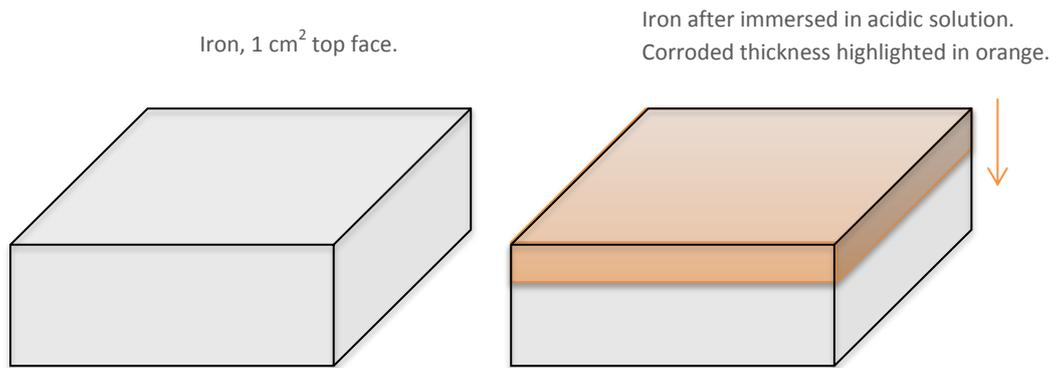

Figure 1. Schematic representation of uniform corrosion in iron.
- The corroded thickness after a day, assuming that the face exposed to the solution (Fig. 1) corrodes uniformly (density of iron:  $7.87 \text{ g/cm}^3$ ).